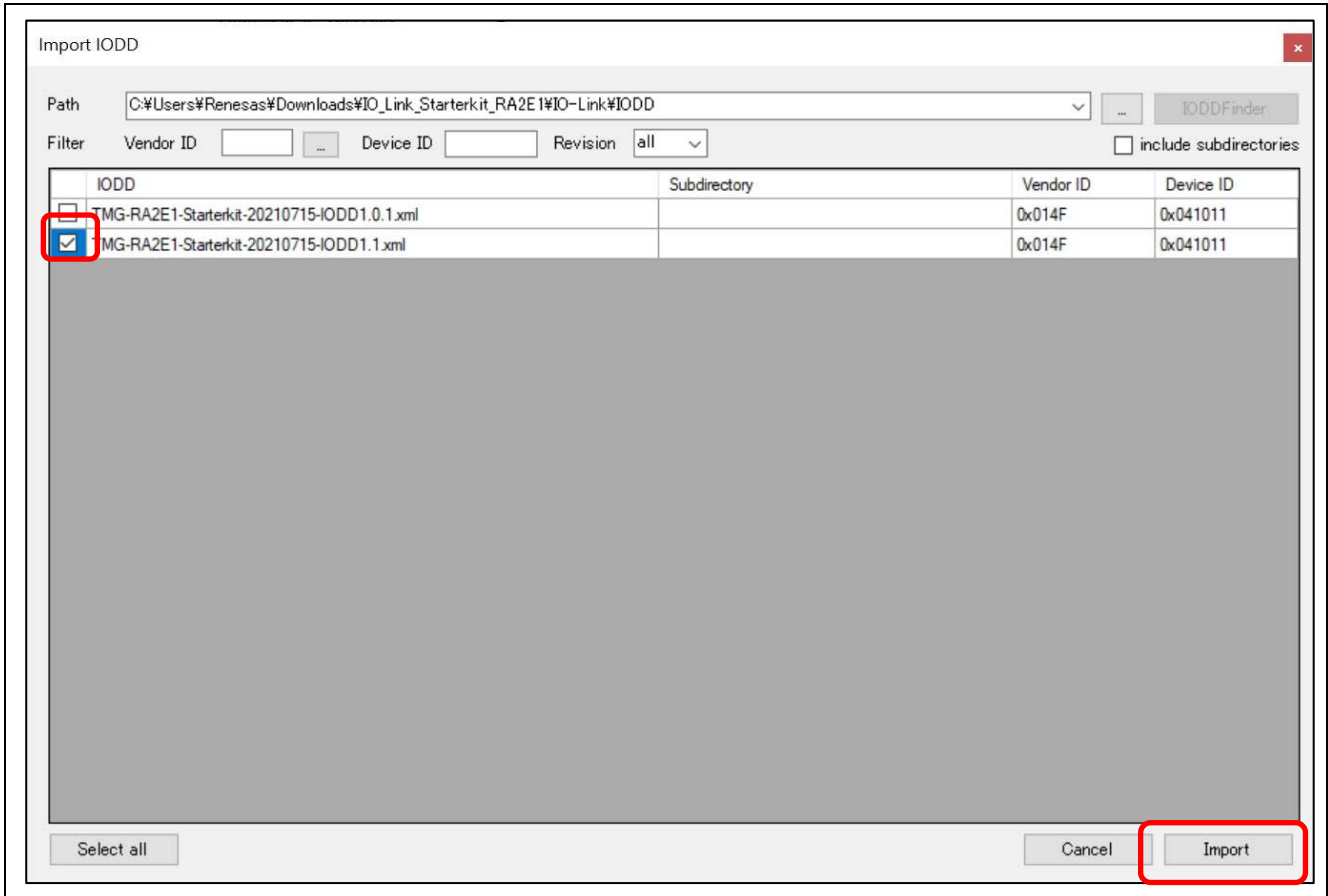

Figure 32. IO-Link Device Tool V5.1 – PE (Load the IODD file)
2. Enter directly or browse to select the path of the folder where the IODD file is located. The IODD files used in this sample project are stored in the IODD folder of the sample project. By setting the path to this folder as shown in Figure 32, available IODD files can be automatically detected.